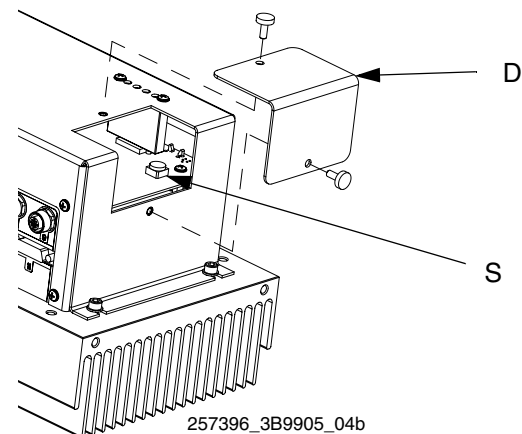

FIG. 13
The Motor Control Module uses an 8-position selector switch (S) to set system maximum working pressure. See FIG. 13.
2. Remove the access cover (D). See FIG. 13.
3. Set the selector switch (S).
4. Install access cover (D).